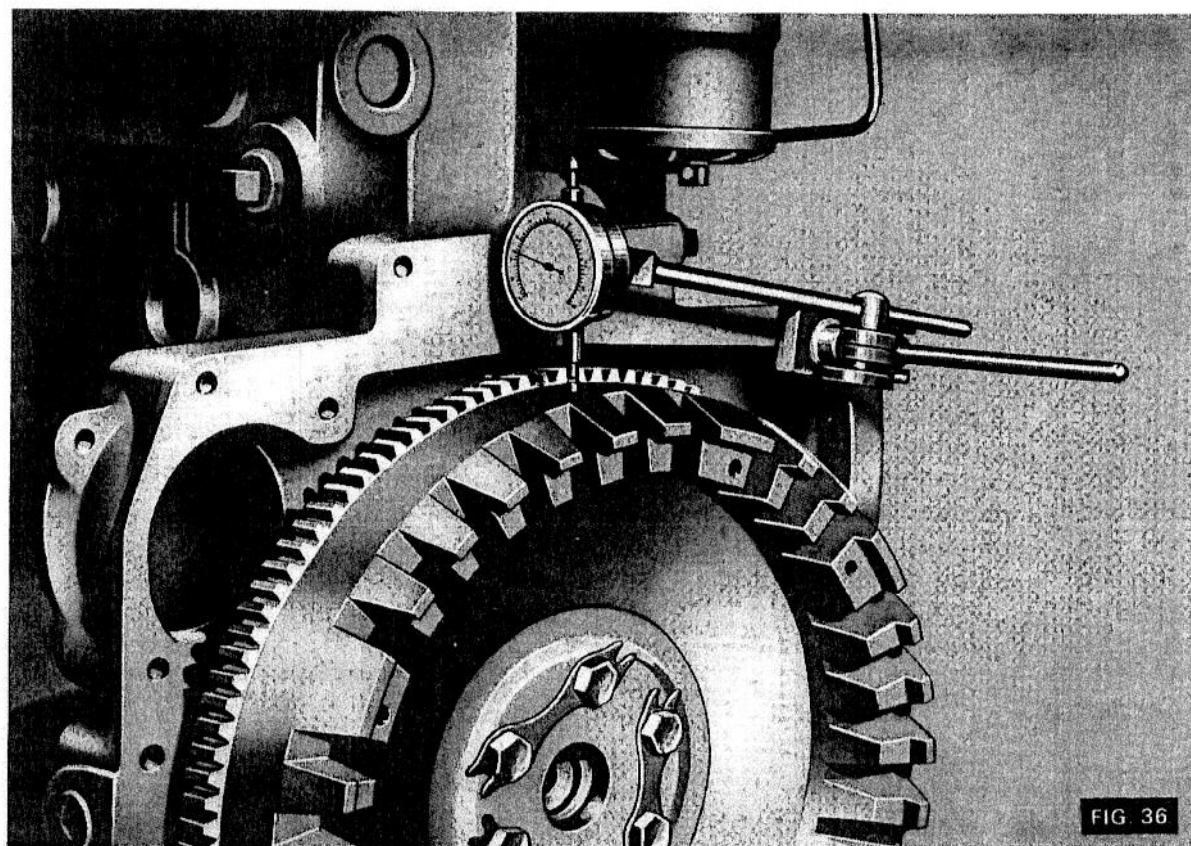

FIG. 36
3. It is essential that the flywheel runs true so before tightening and locking the setscrews, the run-out should be checked with a dial indicator and the total indicator reading should not exceed .012 in. (0.30 mm.) when checking the run-out on the periphery as shown in Fig. 36.